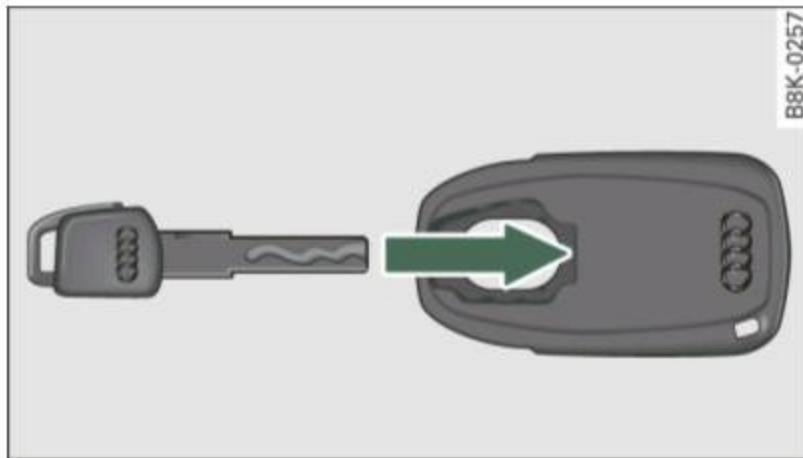

Fig. 38 Insert emergency key into the adapter
- Push the emergency key ⇒ fig. 38 fully into the adapter. Make sure that the Audi rings are facing up.